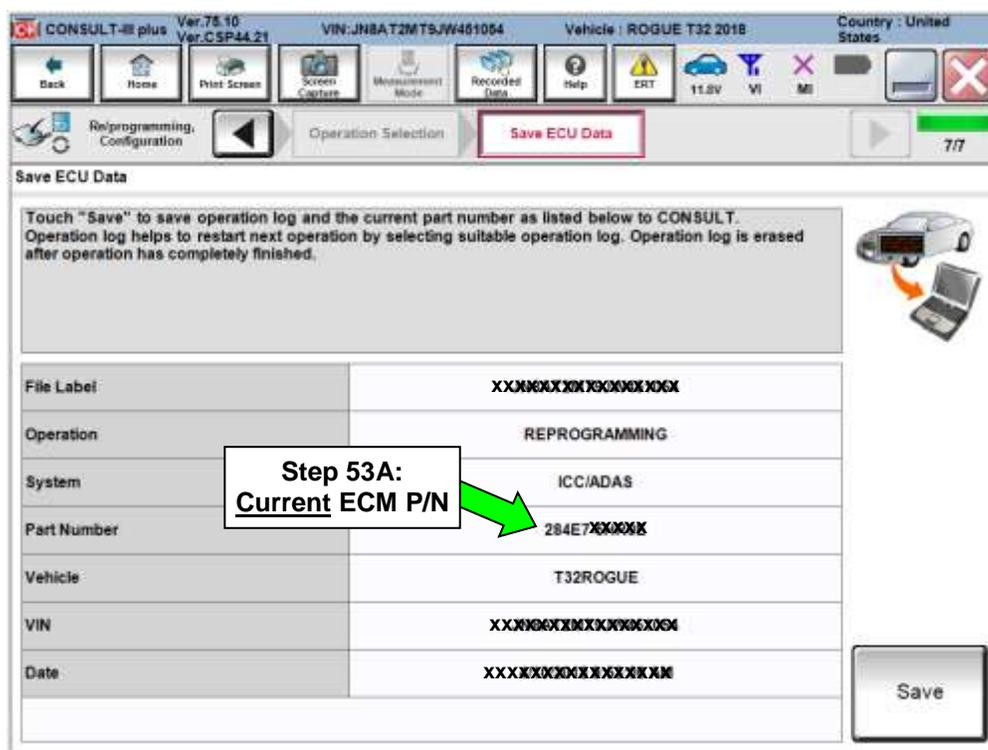

Figure 35
53. When you get to the screen shown in Figure 35, confirm that a reprogram is available as follows.